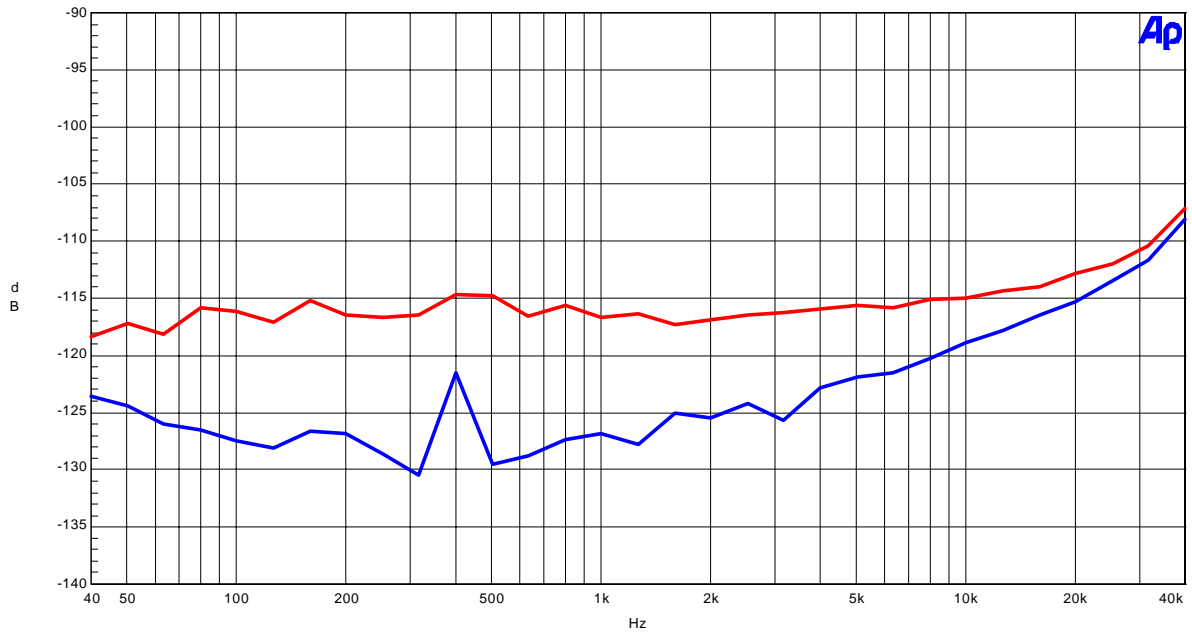

Figure 24. Cross-talk (Input level=0dBFS)
- Figure 24. Cross-talk (Input level=0dBFS)